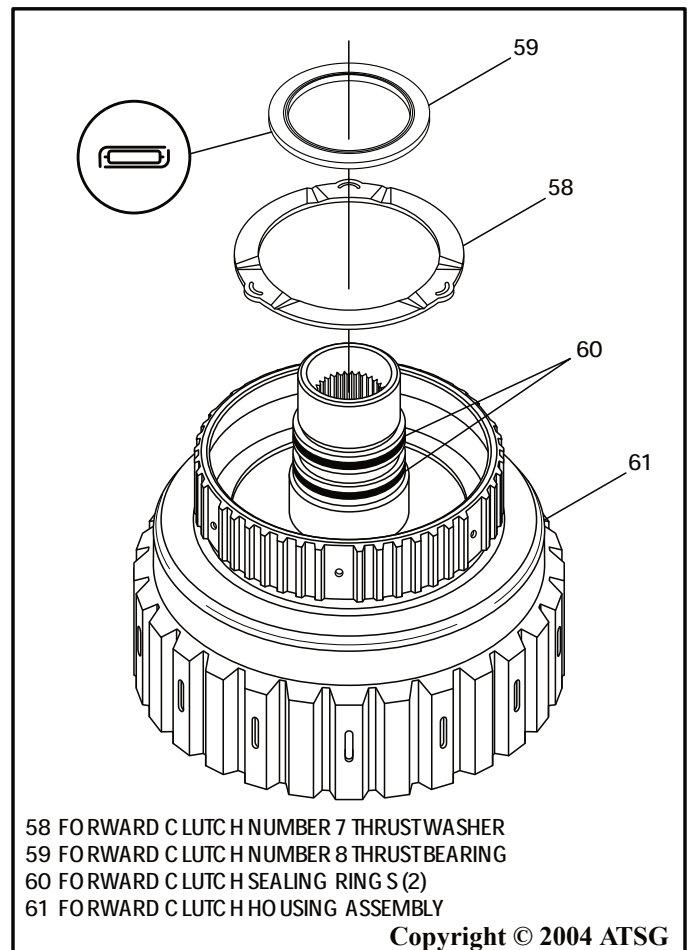

Figure 128
18. Install the number 7 thrust washer, as shown in Figure 128, and retain with Trans-Jel®.
19. Install the number 8 thrust bearing in forward clutch housing, as shown in Figure 128, and retain with liberal amount of Trans-Jel®.